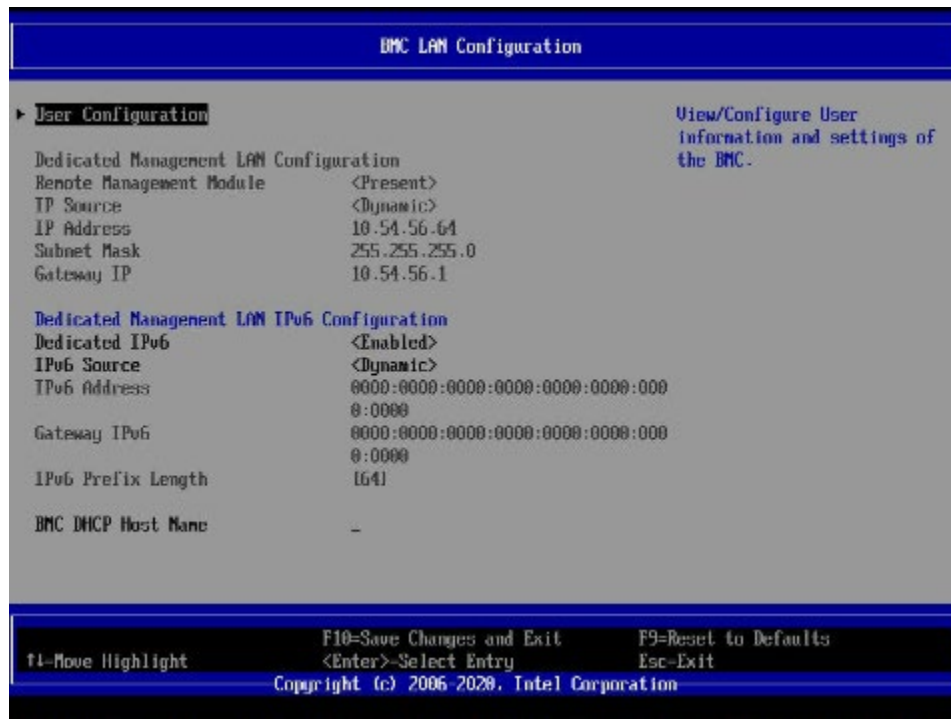

Figure 58. BIOS Setup BMC LAN Configuration Screen
2. Navigate to the **Server Management** tab and select **BMC LAN Configuration** to enter the BMC LAN Configuration screen (Figure 58).